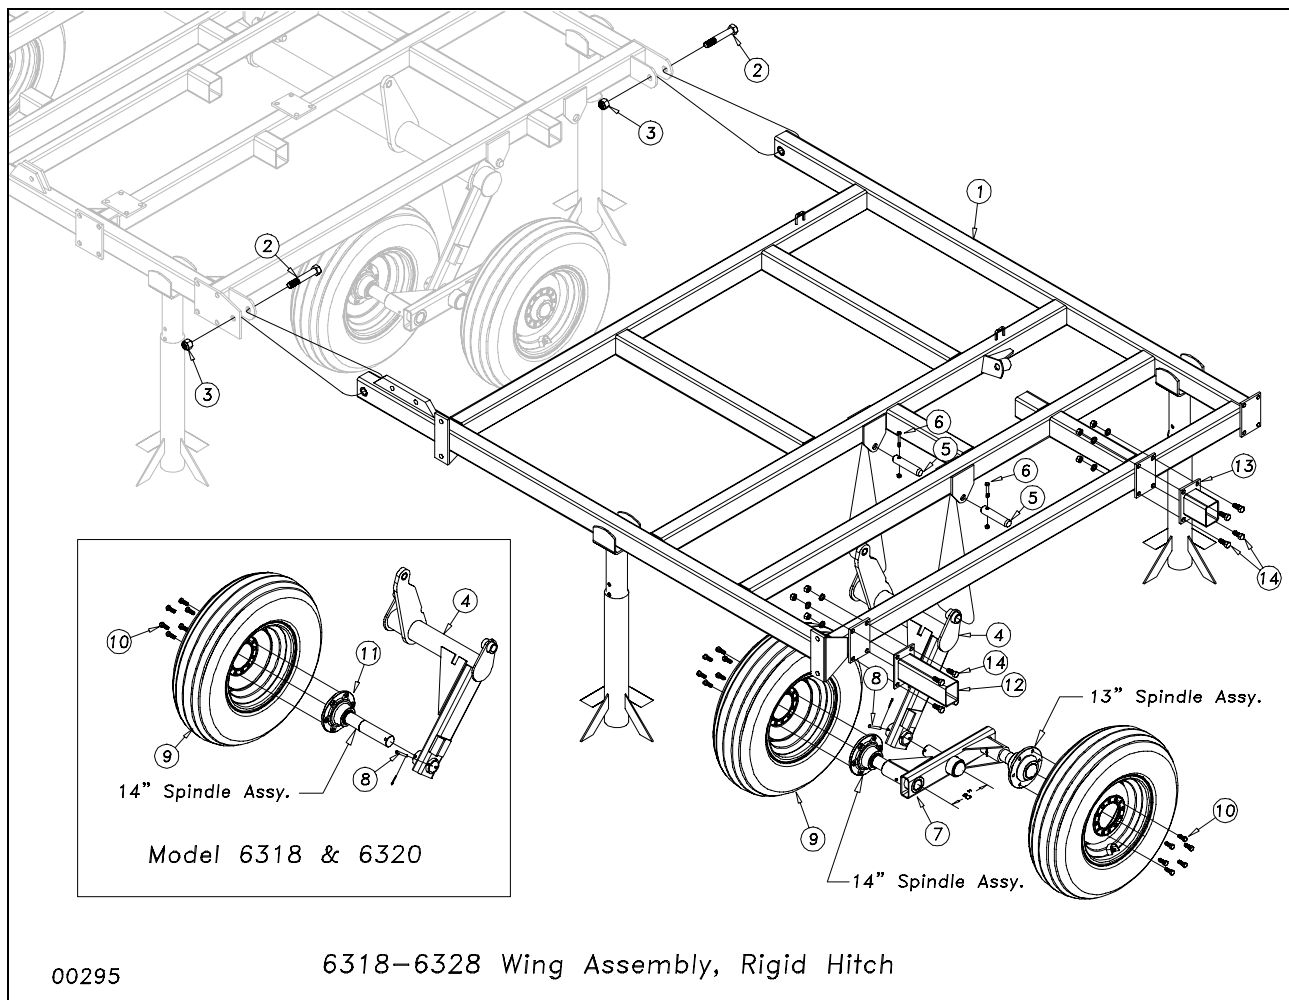

Figure 3
Bolt the inside wing frames (1) Figure 3, to the center frame with two 1 x 6 hex bolts (2) with nylon lock nuts (3). Draw the nuts down tight but ***do not torque***.
Install the wing walking beam assembly (7) as shown in Figure 3 with the long 14"